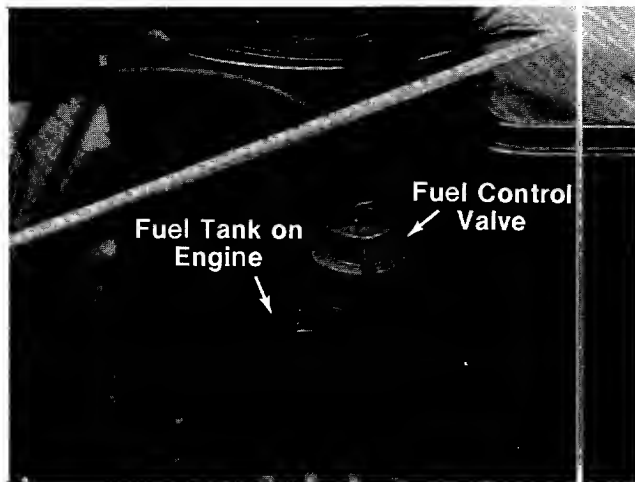

FIGURE 13.
2. Install fuel control valve into the fuel tank on the engine as shown in figure 13. It may be necessary to disconnect the fuel line in order to thread the fuel control valve into the fuel tank. Reconnect the fuel line.